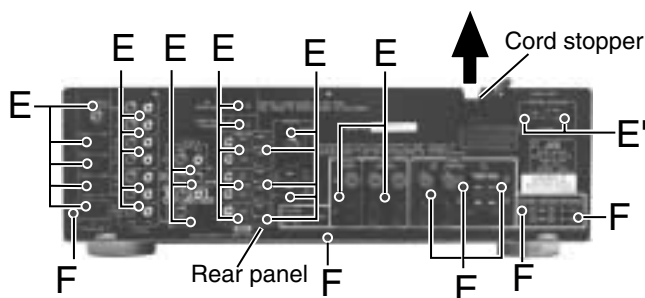

Fig.4
■ Removing the voltage selector (See Fig.4)
■ Removing the rear panel (See Fig.4)